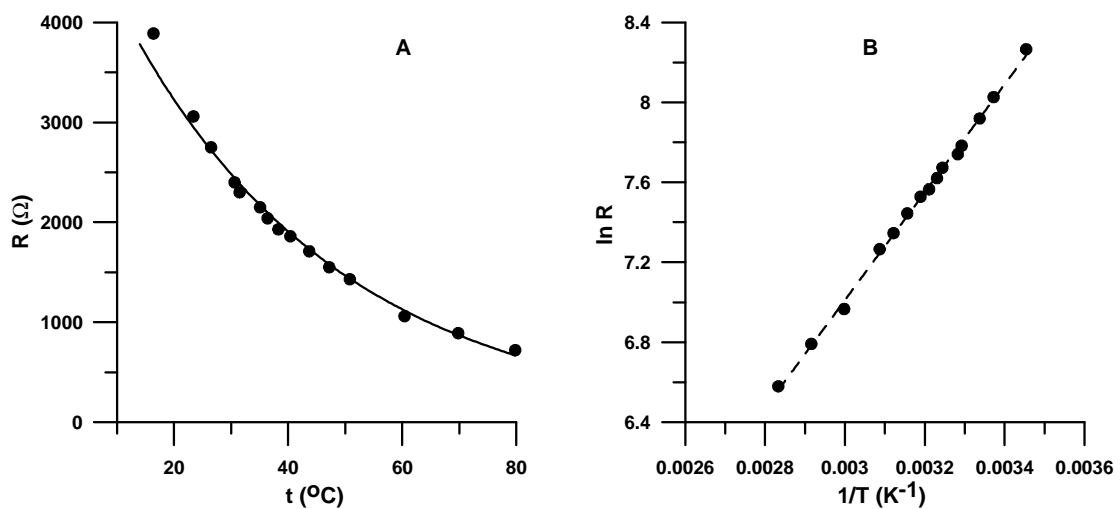

Fig 1. A: Temperature dependence of the resistance of thermistor.
8. Experimental report requires a graphical representation of your data:  $R=f(t)$  and  $\ln(R) = f(1/T)$  as shown in Fig. 1.